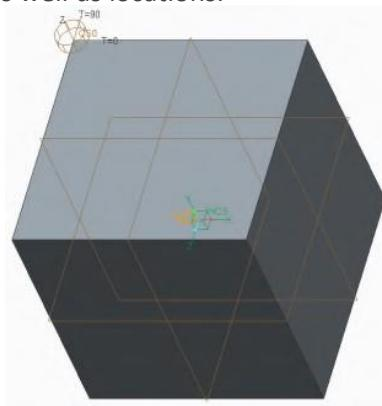

Figure 1 - Types of Coordinate Systems
- WCS (world coordinate system): The default Simulate coordinate system. It is a Cartesian coordinate system at O, O, 0. An example of a WCS is shown in the center of figure 1.
- Cylindrical: coordinates are measured in R, Θ, and Z directions. An example of a cylindrical UCS is shown on the top left side of figure 1.